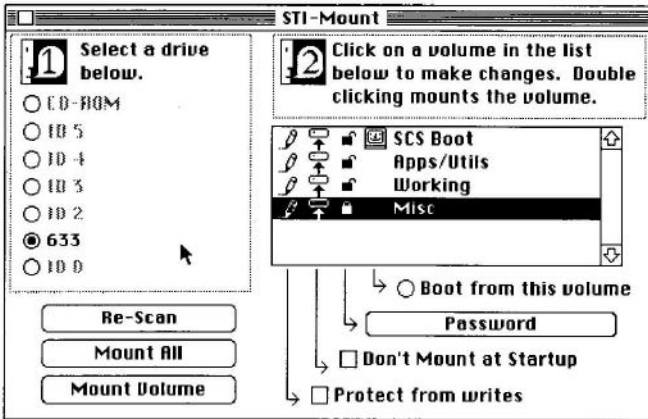

Figure A.1: STI-Mount Window with Drive Selected
**NOTE:** Hard disks that are not set up (Formatted) with Red Line! will be grayed out on the STI-MOUNT Dialog Box screen (see Figure A.1)
1. Select **STI-Mount** under the Apple menu if you are running System 7, or double click on the **STI-Mount** icon if you are running System 6. The **STI-Mount** Dialog Box shown in Figure A.1 will appear:
The SCSI devices attached to your computer are listed next to the radio buttons at the left of the screen, as shown in **Figure A.1**.